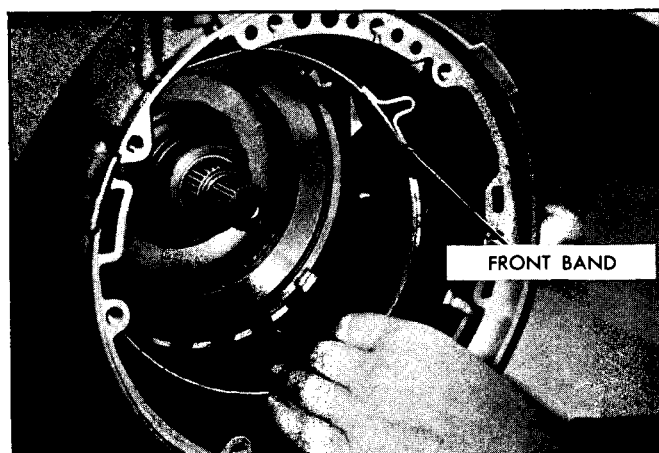

Fig. 7E-70 Removing Front Band
- i. Remove parking pawl shaft and parking pawl (Fig. 7E-69).